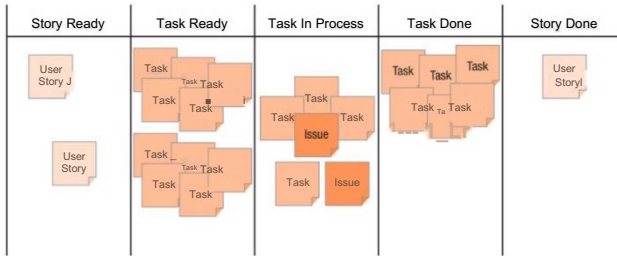

FIGURE 17.1 *Kanban board*
The second thing to know about Kanban for the exam is that there are five core principles. Looking at figure 17.1, can you see how the Kanban board supports the first three principles listed below?
- **Limit WIP (work in progress)** Iteration backlogs are an example of limiting work in progress. On a Kanban board, tasks are coded or colored for the person responsible for completing them. In the example given in figure 17.1, a new task will not be added to the Task in Process column for a team member until their current task moves to the Task Done column.
Think About It. Look again at the Kanban board example in figure 17.1. Can you see why Kanban, if used as a product development method, is called a *pull system*?